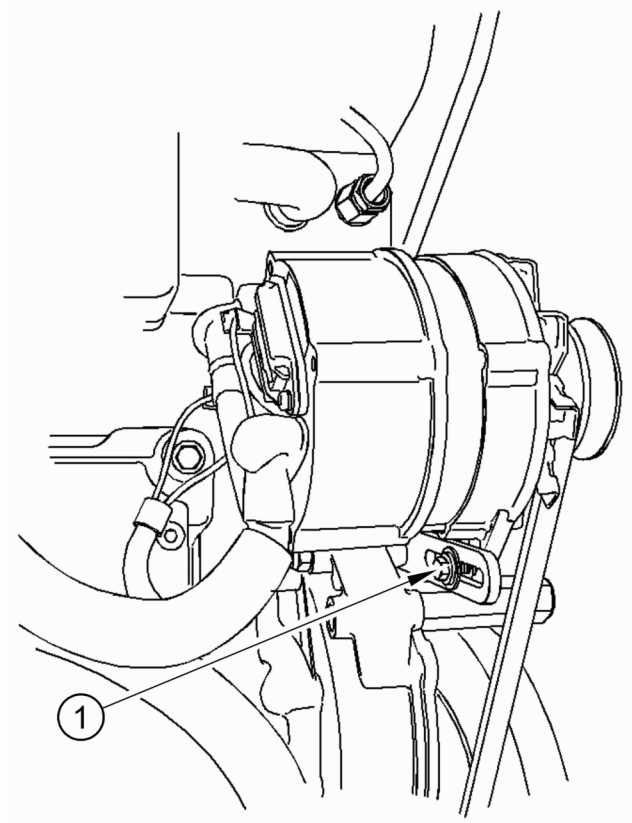

Figure 12
2. Loosen bolt (figure 12 item 1) and adjust the alternator in order to alter the belt tension. Tighten all bolts for the adjustment of the alternator to 22 Nm (16 lb ft).